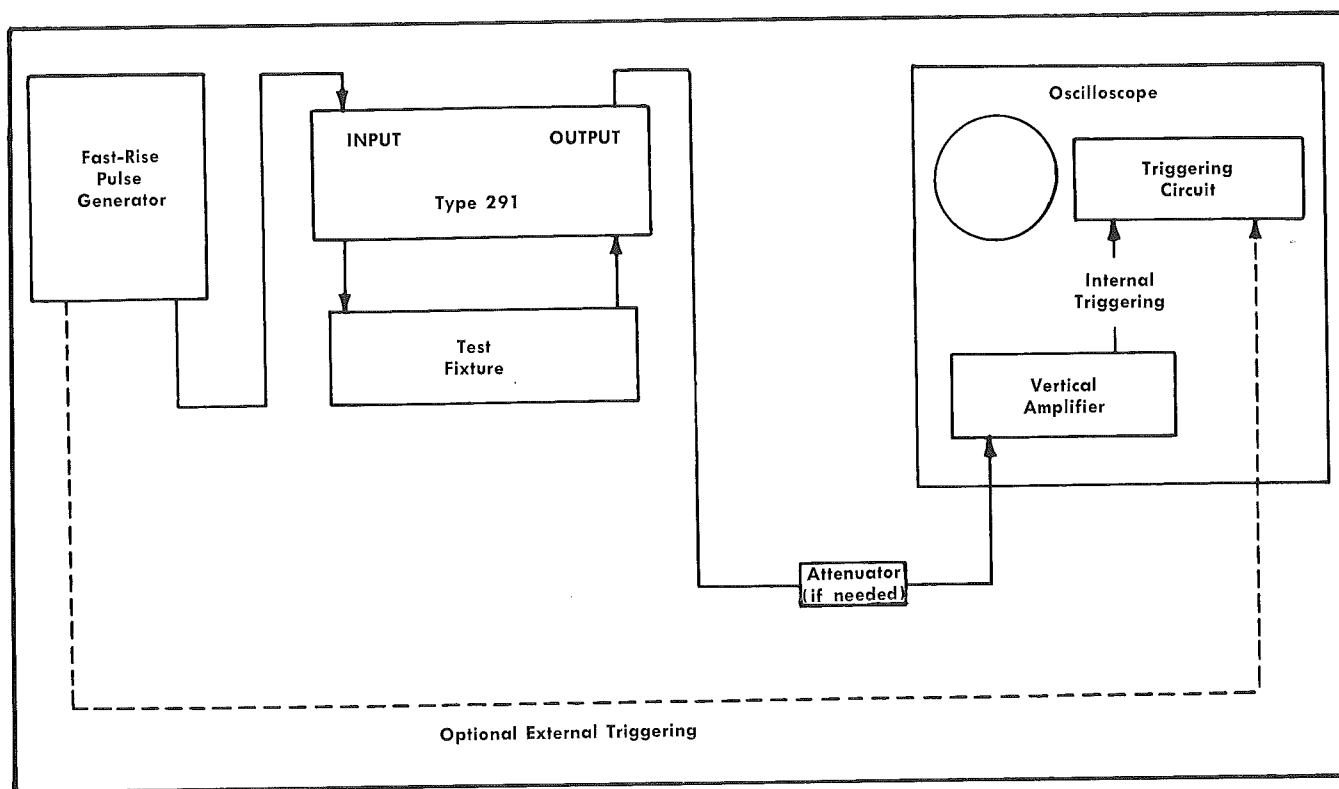

Fig. 3-3. Basic test system.
In addition to the Type 291 Diode Switching Time Tester and test fixture, a fast-rise pulse generator, and an oscilloscope is required (see "Pulse Generator and Oscilloscope Requirements"). The basic test system is shown in Fig. 3-3. The oscilloscope is dc coupled, and 50-ohm coaxial cables are used throughout the system. To eliminate possible reflected pulses in the recovery display, the time delay in the cable between the pulse generator and Type 291 should be longer than the recovery time of the diode under test. If the pulse generator has a trigger output, it can be used to externally trigger the oscilloscope.
the Type 291 and the oscilloscope, as shown in Fig. 3-3. However, with an attenuator between the Type 291 and the oscilloscope, the current sensitivity is reduced by the attenuation factor. For example, if an 10X attenuator is used, each millivolt displayed equals 200 microamps of diode current.
1. With the test equipment connected as shown in Fig. 3-3, short across the test fixture by inserting a piece of wire as you would a diode.
1. Connect the test equipment as shown in Fig. 3-3 (the pulse generator is not needed for this procedure, but is necessary when measuring diode switching characteristics), and set the Type 291 CURRENT VARIABLE control to CALIB. and the CURRENT mAmps control to 10.